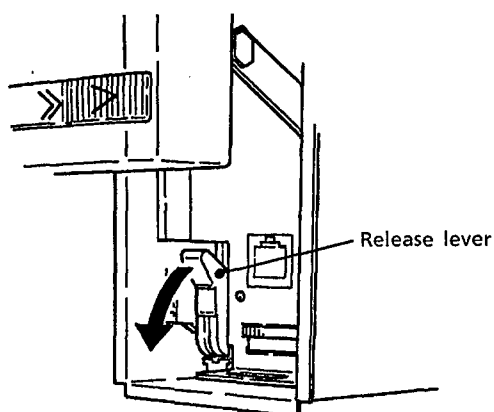

Figure 3.7 Removing the Internal Unit 1
- ① Swing up the front panel (see Section 3.2 "Swinging the Front Panel Up and Down").
- ② Pull down the release lever (see Figure 3.7). The connector part at the back comes off.